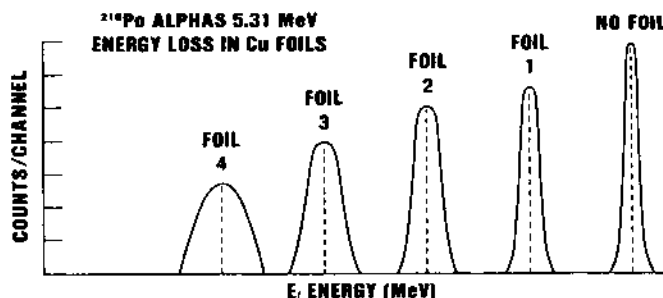
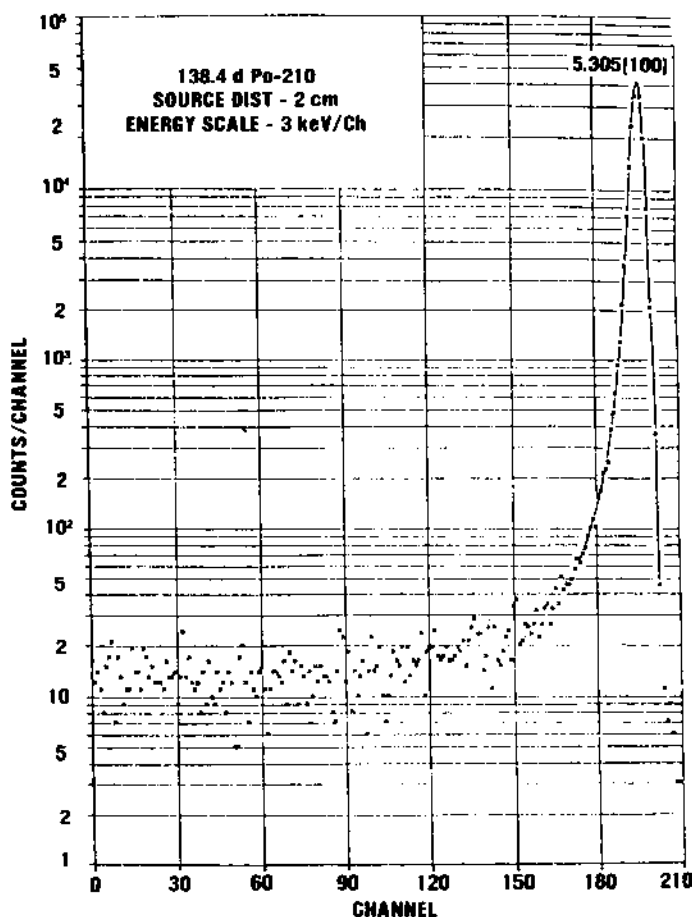

Figure 4.4. Composite Spectra of the Energy Loss of ^{210}Po Alphas in Thin Copper Foils.
Figure 4.5. Alpha Particle Pulse Height Spectrum of ^{210}Po (No Foil).
4. Repeat for the rest of the copper foils in the set. Figure 4.4 shows a typical superposition of several of the above measurements on the same graph.
5. This experiment may also be done for any of the other foils that the instructor may provide (see Tables 4.1 and 4.2 or ref. 7). Figure 4.4 shows a typical pulse height spectrum of the ^{210}Po alphas before going through a foil. This experiment could have been done with any of the alpha sources that were shown in Experiment 3. Figure 4.5 shows a spectrum of another alpha source which is suitable for this experiment ^{234}U .